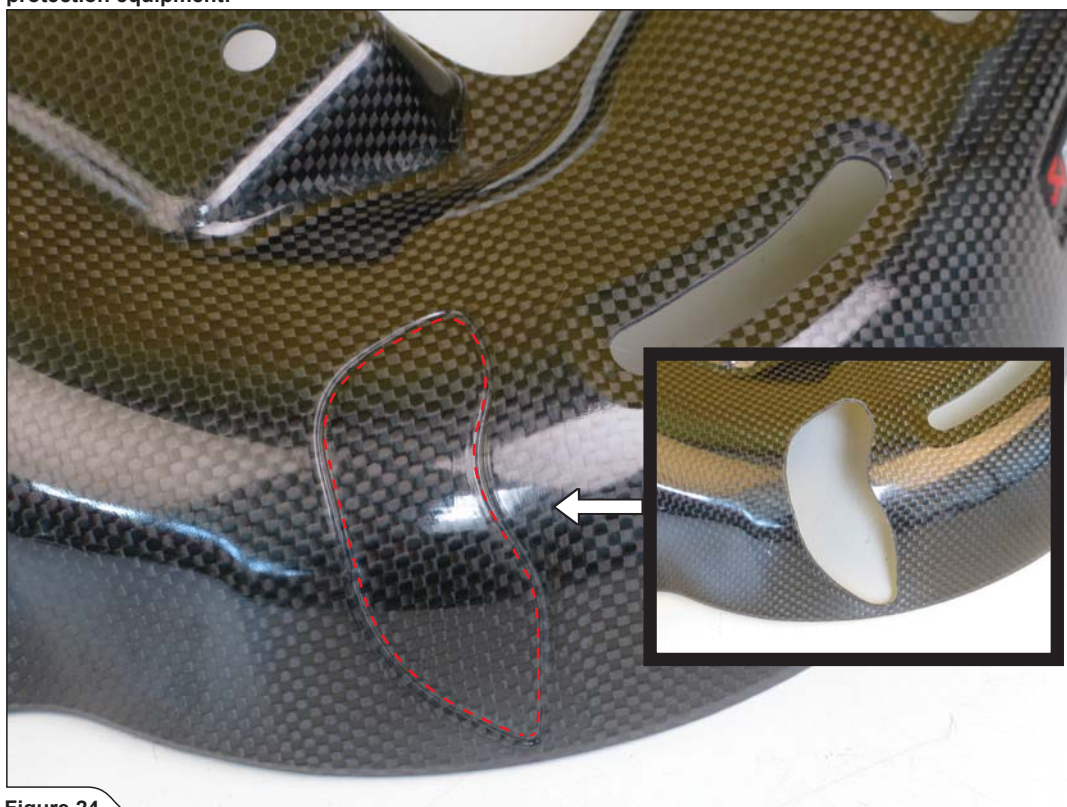

Figure 24
4. **For use of passengers foot rests only:** carefully cut/grind the impressed part of the carbon fiber heat shield, as shown (**Figure 24**).